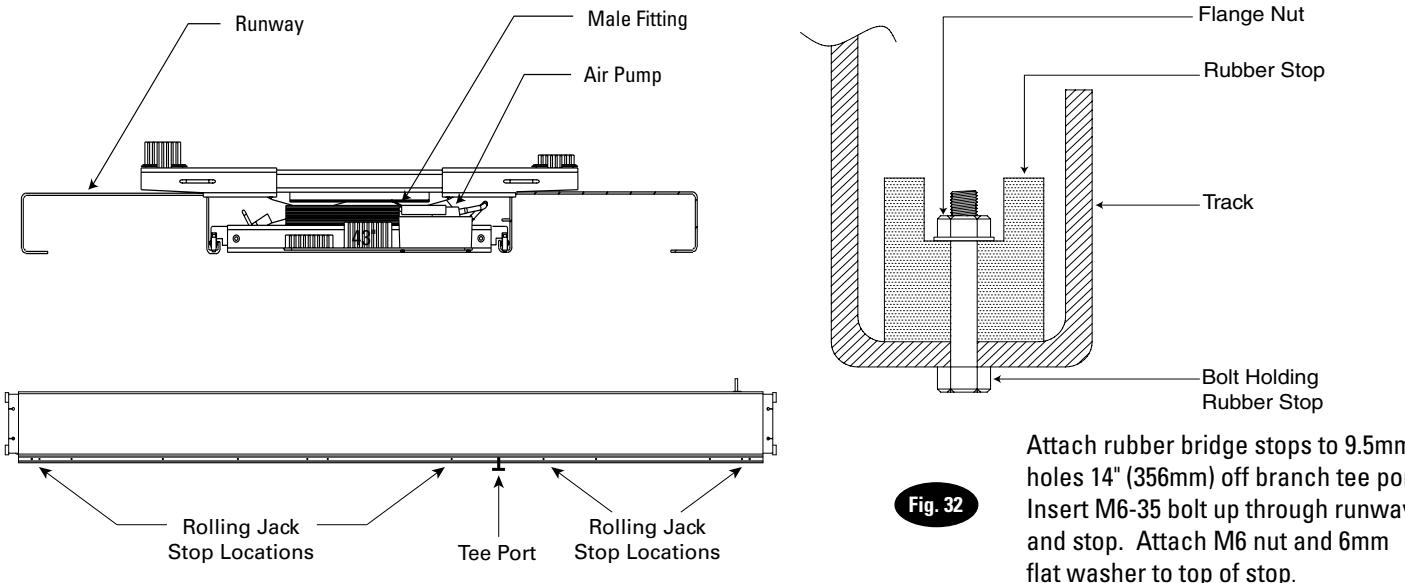

Fig. 32
- Place jack on runway track at front and rear with air pump facing ends of runway, Fig. 32.
- Attach rubber stop see Fig. 32.